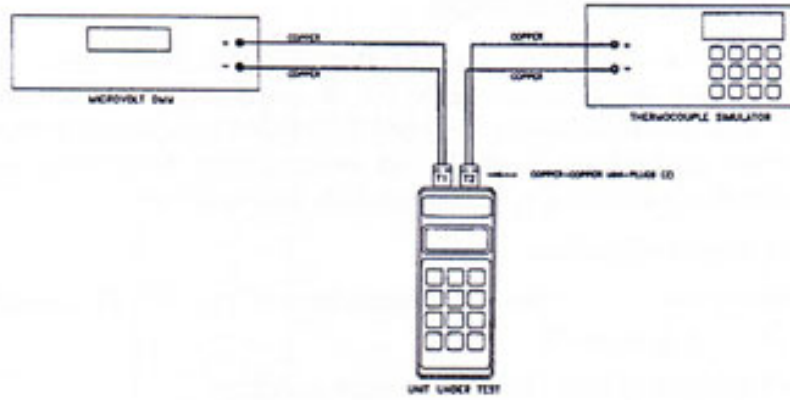

Figure 11. Calibration Setup, Copper Mode.
3. Calibration cables, per Figures 11, 12, 13.
6. Hook up test-equipment, calibration cables, and U.U.T. per Figure 11.